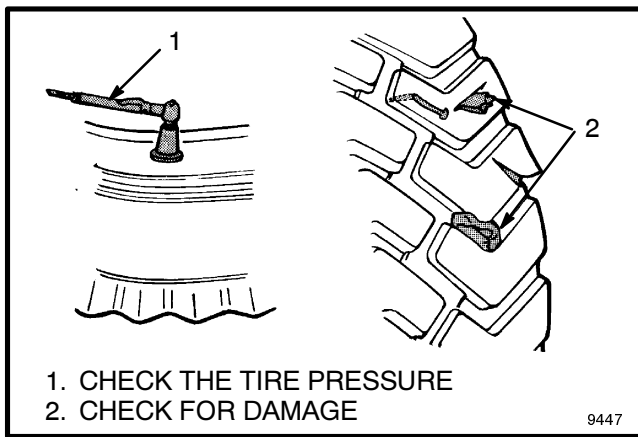

FIGURE 10. CHECK THE TIRES
2. Install the strip bearings and the shims on the outer weldment. Apply grease to the bearing surface. See FIGURE 10.